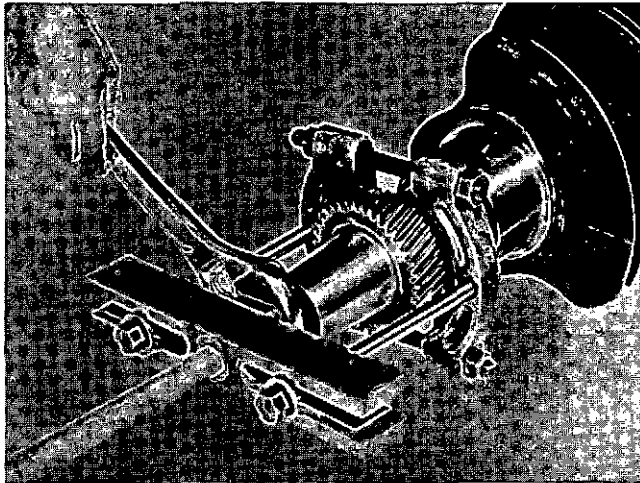

Fig. 1-4-1, V40142. Pulling crankshaft gear with ring-type puller
2. Attach a circular-type puller, as illustrated in Fig. 1-4-1, behind the crankshaft gear.